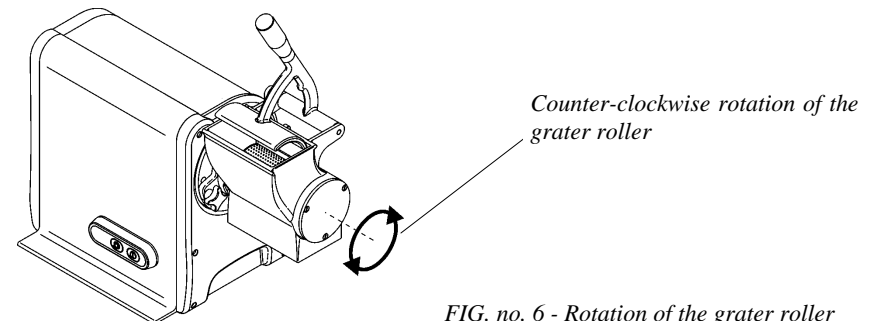

FIG. no. 6 - Rotation of the grater roller
- press the "I" on button and the "0" off button, making sure the grater roller turns counter-clockwise. Looking at this from above the hopper (see FIG. no. 6) you should see the roller teeth move from left to right.